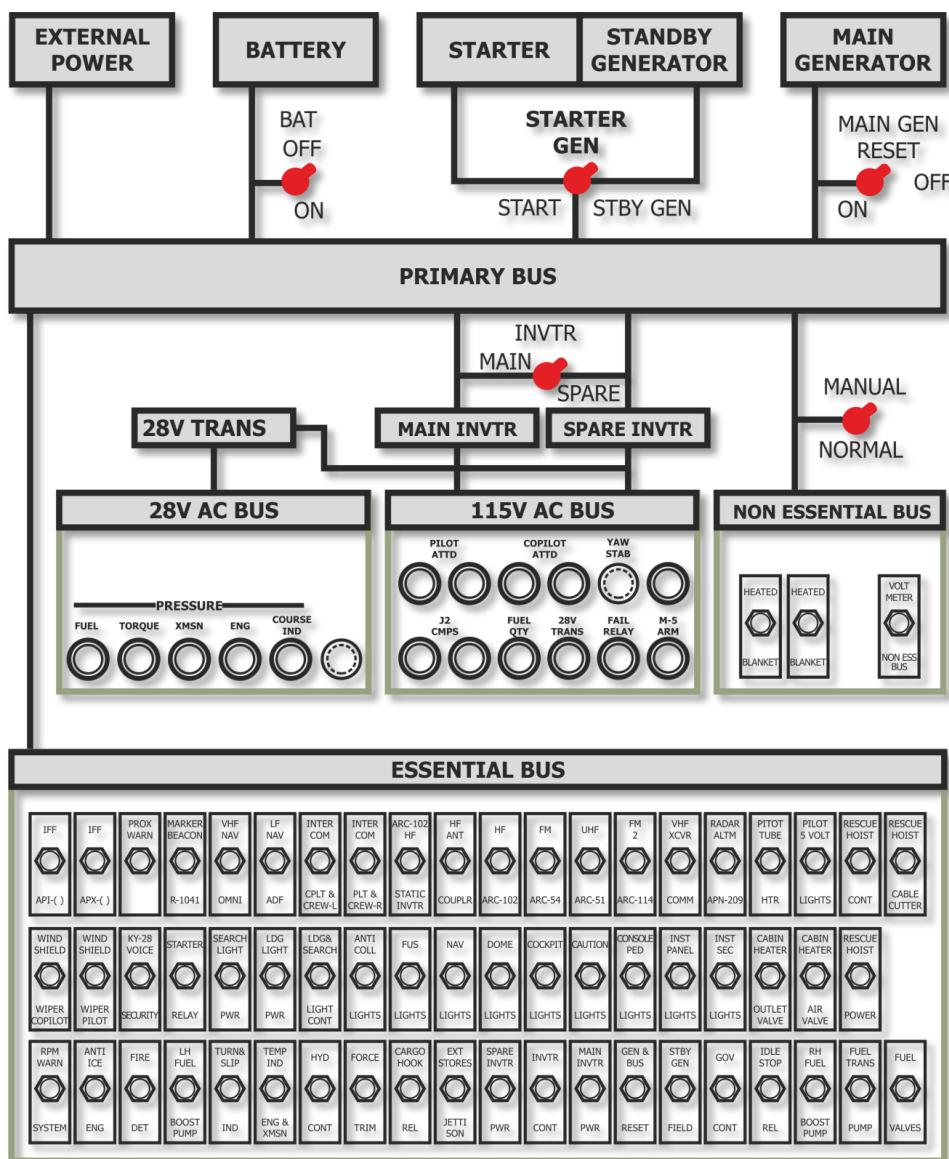
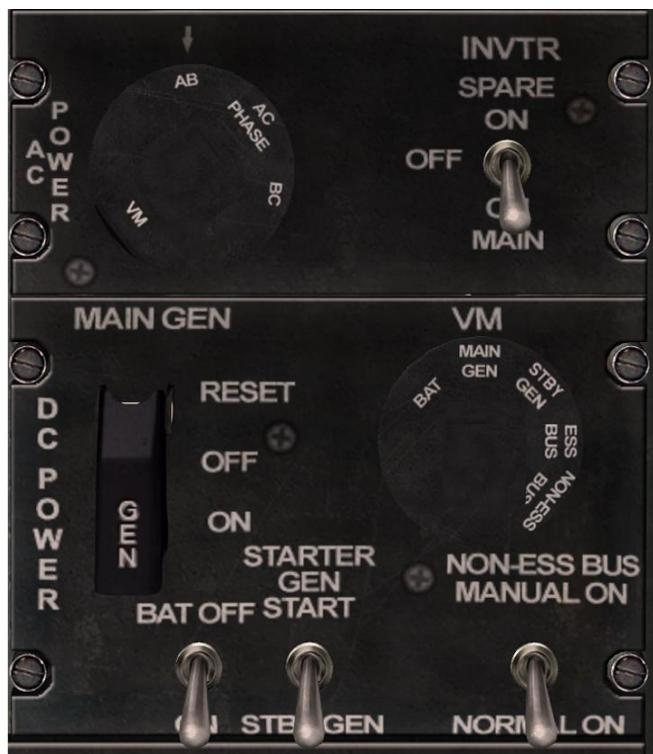

Figure 6.2. Electrical system schematic.
Figure 6.5. Overhead console AC and DC POWER panel.
Figure 6.2. Figure 6.4 depicts the general schematic of the DC and AC power distribution system. The DC power is supplied by the battery, main generator, standby starter-generator, or the external power receptacle. The 115 VAC power is supplied by the main or spare inverters. The 28 VAC power is supplied by a transformer which is powered by the inverter.
A. MAIN GENERATOR SWITCH The MAIN GEN switch (Figure 6.5) is on the overhead console DC POWER panel. In the ON position the main generator supplies power to the distribution system. The RESET position is springloaded to the OFF position. Momentarily holding the switch to RESET position will reset the main generator. The OFF position isolates the generator from the system. The circuit is protected by the GEN & BUS RESET in the DC circuit breaker panel.
Alternating current is supplied by two inverters (Figure 6.2). They receive power from the essential bus and are controlled from the AC POWER control panel (Figure 6.5).